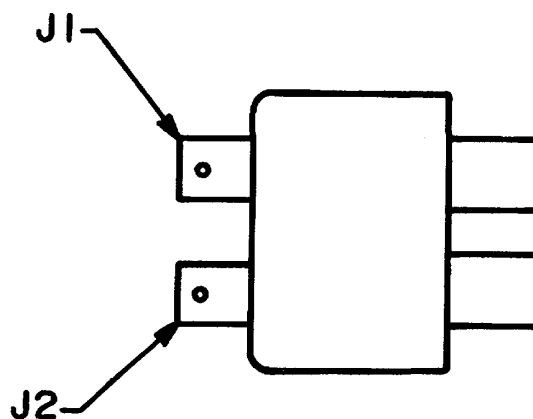

FIGURE 3
- PIN CONFIGURATION PER FIGURE 3.